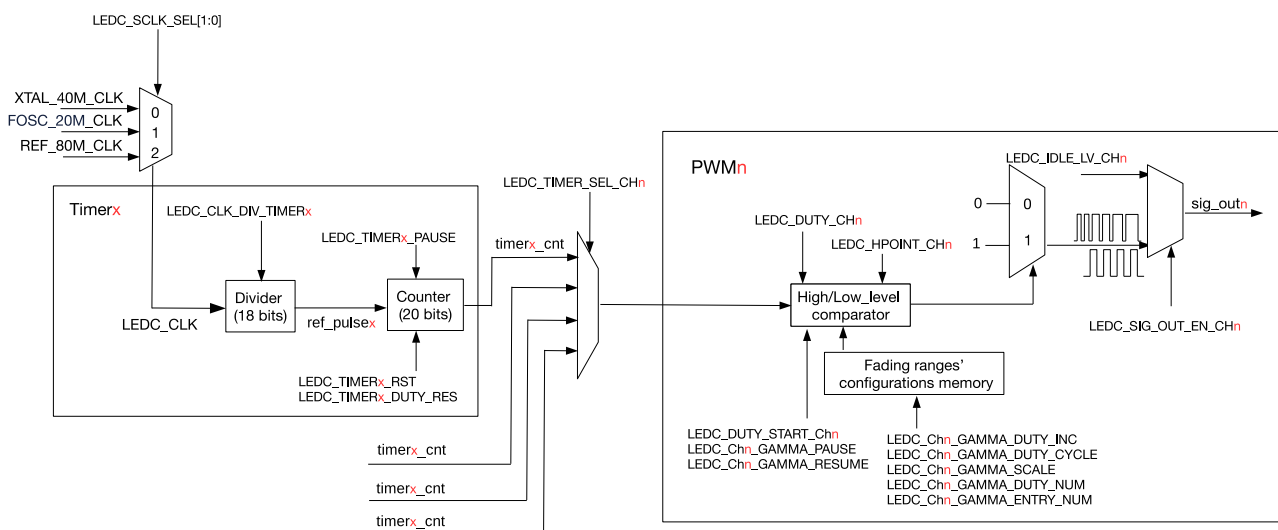
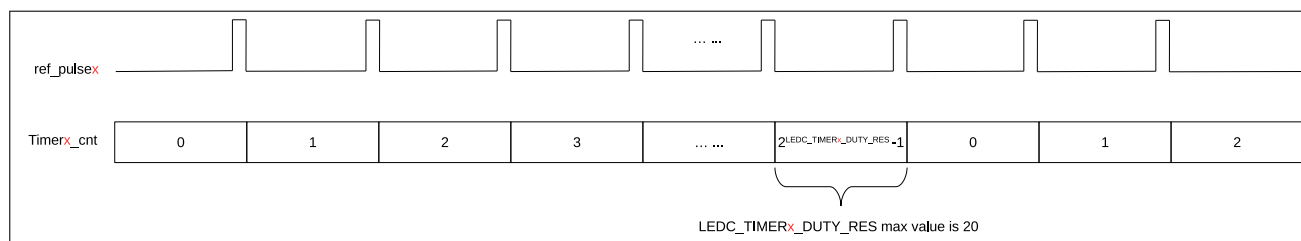

Figure 55.3-2. Timer and PWM Generator Block Diagram
Figure 55.4-2. Relationship Between Counter And Resolution
Figure 55.3-2 illustrates the main functional blocks of the timer and the PWM generator.
Each timer in LED PWM Controller internally maintains a timebase counter. Referring to Figure 55.3-2, this clock signal used by the timebase counter is named `ref_pulsex`. All timers use the same clock source `LEDC_CLK`, which is then passed through a clock divider to generate `ref_pulsex` for the counter.
The LEDC_CLK signal is passed through a clock divider to generate the ref_pulse_x signal for the counter. The frequency of ref_pulse_x is equal to the frequency of LEDC_CLK divided by the divisor LEDC_CLK_DIV (see Figure 55.3-2).
Each timer contains a 20-bit timebase counter that uses ref_pulse x as its reference clock (see Figure 55.3-2). The LEDC_TIMER x _DUTY_RES field configures the actual used bit width of this 20-bit counter. Hence, the maximum resolution of the PWM signal is 20 bits. The counter counts up to $2^{\text{LEDC_TIMER}_x\text{_DUTY_RES}} - 1$, overflows and begins counting from 0 again. The counter's value can be read, reset, and suspended by software. Figure 55.4-2 shows the relationship between the counter and PWM resolution.
Referring to Figure 55.3-2, the frequency of a PWM generator output signal (`sig_outn`) is dependent on the frequency of the timer's clock source `LEDC_CLK`, the clock divisor `LEDC_CLK_DIV`, and the duty resolution (counter width) `LEDC_TIMERx_DUTY_RES`:
As shown in Figure 55.3-2, each PWM generator has a comparator and two multiplexers. A PWM generator compares the timer's 20-bit counter value (`Timerx_cnt`) to two trigger values `Hpointn` and `Lpointn`. When the timer's counter value is equal to `Hpointn` or `Lpointn`, the PWM signal is high or low, respectively, as described below:
- `LEDC_TASK_SIG_OUT_DIS_CH $n$` : If the `LEDC_TASK_SIG_OUT_DIS_CH $n$ _EN` field is enabled, upon receiving the `LEDC_TASK_SIG_OUT_DIS_CH $n$` task, PWM n 's signal output is disabled, and the output signal (sig_out n) outputs a constant level as specified by field `LEDC_IDLE_LV_CH $n$` , as shown in Figure 55.3-2.